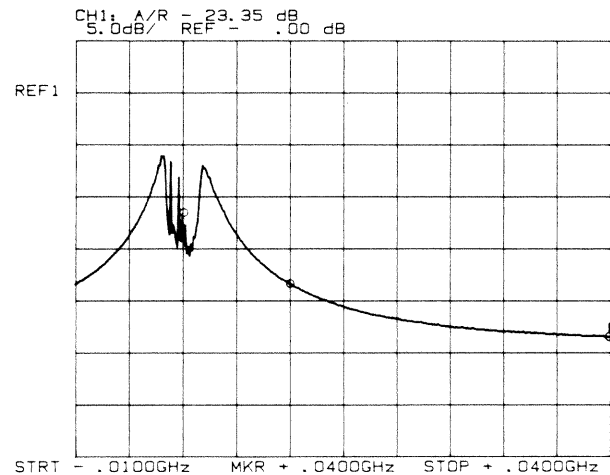

Figure 4-5. Reading Marker Value
7. Connect the DUT to the **TEST PORT**, and press [**SCALE**] [**5**] [**DB**] on the HP 8756A. The CRT display should be similar to Figure 4-5.
8. Select **M2**, then **M3**, and read the return loss from the marker value given in the upper left corner of the CRT (see Figure 4-5). Record these values on the test record card.